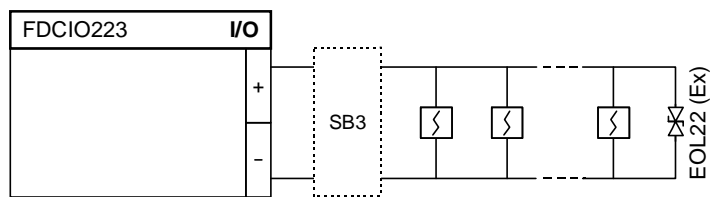

Fig. 6
- Fig. 6 Detector line with safety barrier (ex-zone 1+2)